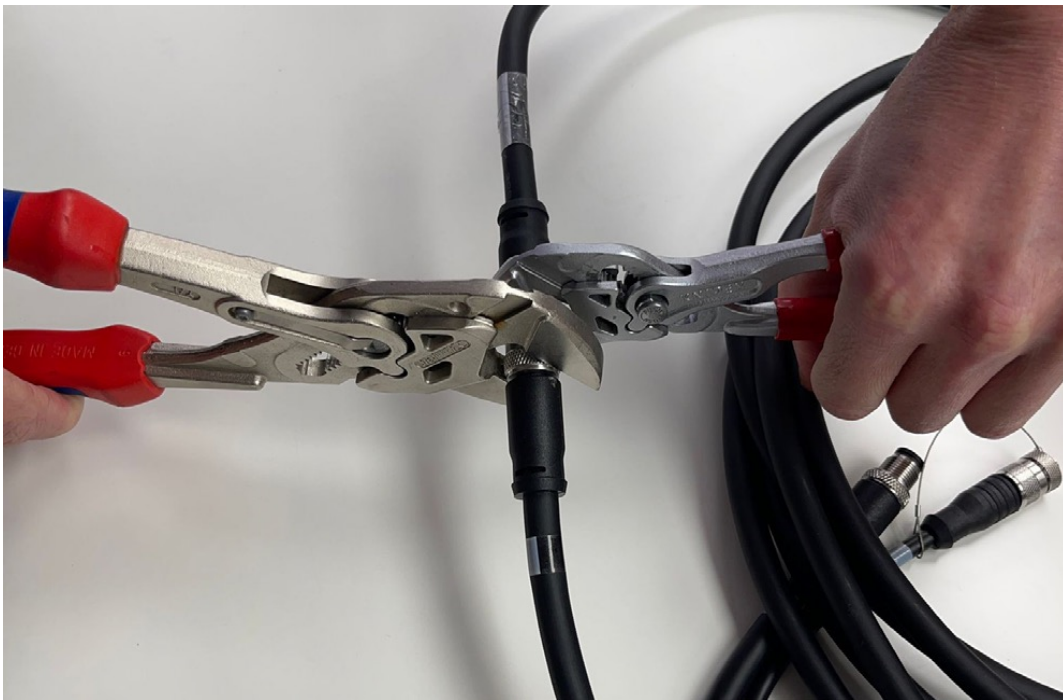

Fig. 11-3: Tighten Connectors with Tools up to 90°
- d. Use a pair of tongue-and-groove pliers to turn the connectors an additional 90° (refer to Figure 11-3). This will prevent disconnection due to vibrations.